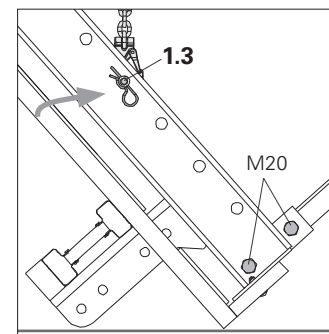

Fig. A1.16b
1. Loosen the 2 Bolts and Nuts M20 on the holder of the platform beam (9) and remove.
2. Fix Guardrail Post (10) to the Platform Beam (9) using the 2x Bolts and Nuts M20. (Fig. A1.16b)